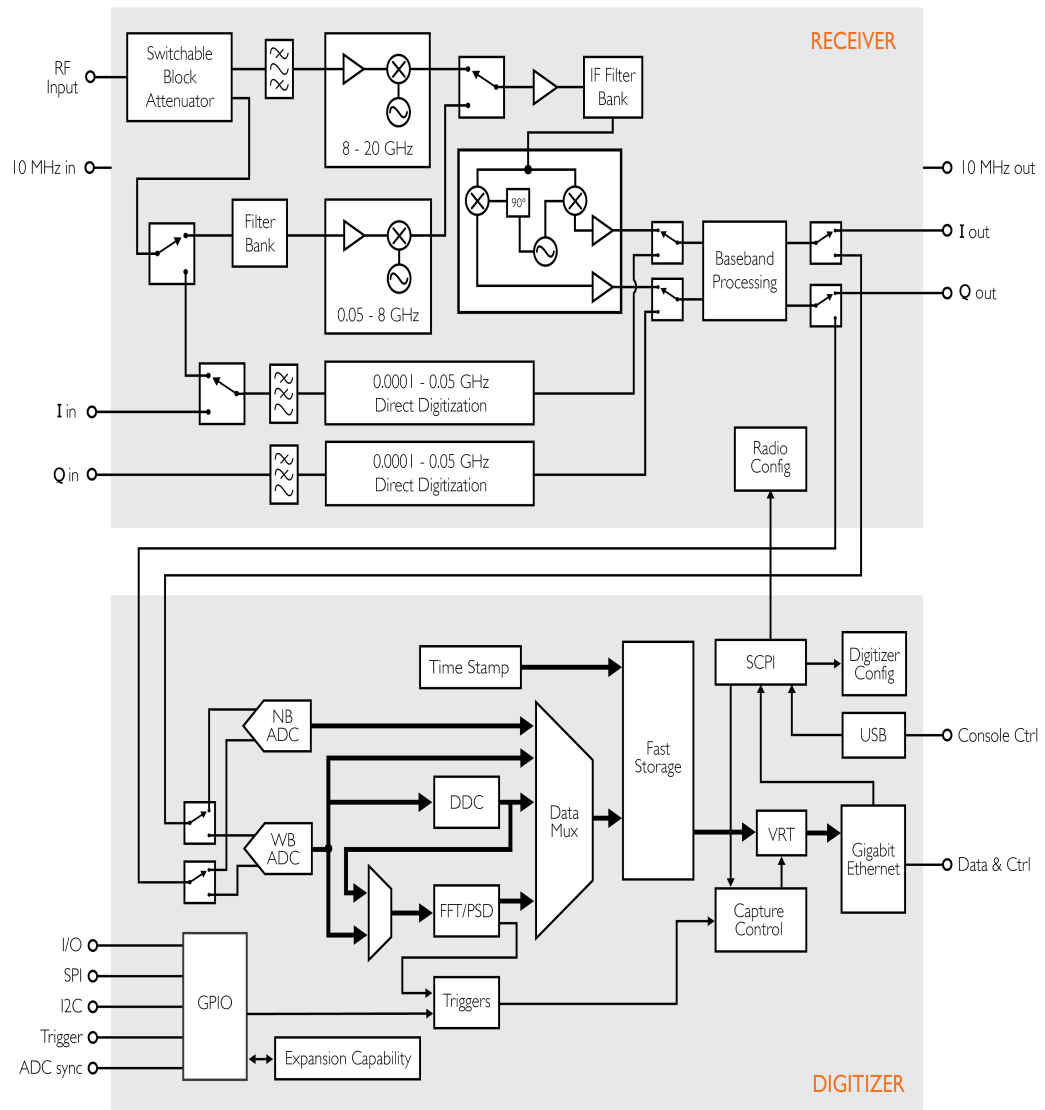

Figure 2: RF Receiver Front-end and Capture Controller Functional Block Diagram
Traces and sweeps are controlled by the capture controller as illustrated in the lower portion of Figure 2. A trace and a sweep are defined as a single (block or continuously streamed) capture and a series of captures, respectively, each with their associated hardware configurations.
The upper portion of Figure 2 shows a block diagram of the RFE within the WSA5000. The architecture consists of a super-heterodyne (SH) front-end with a back-end that utilizes an I/Q mixer similar to that in a direct-conversion (or zero-IF) receiver.